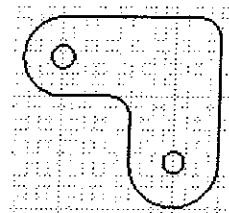

Fig. 2
- b. Check the validity of the model shown in Fig. 2 using suitable law. [5]